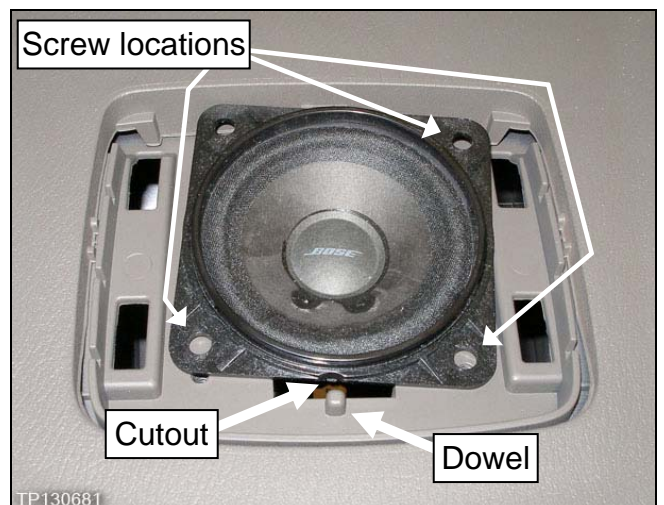

Figure 71
### If equipped: Center speaker (see Figure 71)
- Remove three (3) screws, lift out speaker.
- The center speaker has one installed position only. See cutout and dowel, Figure 71.